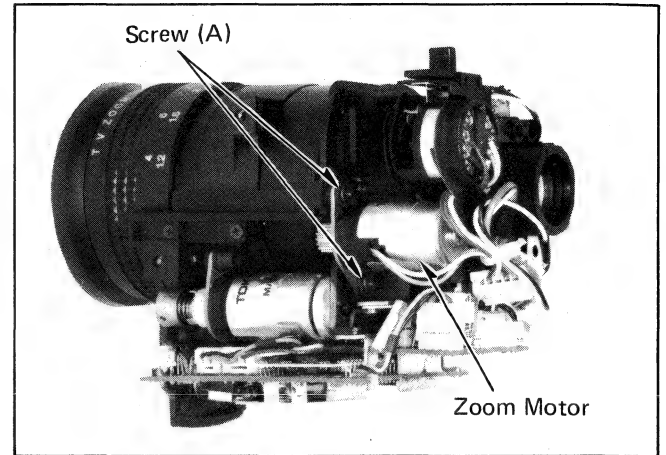

Fig. 21
8-2. Unscrew 2 screws (A) and remove the zoom motor (see Fig. 21).